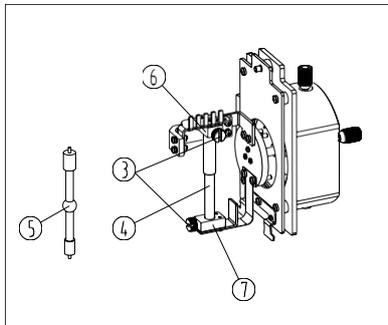

Fig. 8
(2) Loose the lock screw ③ of the mercury lamp first, and take off the supporting rod ④, and then insert the positive side (big end) of the new mercury lamp ⑤ into the positive holder ⑥ thoroughly; then put the negative holder ⑦ on the negative side (small end) of bulb and lock the screw ③. (See Fig. 8)